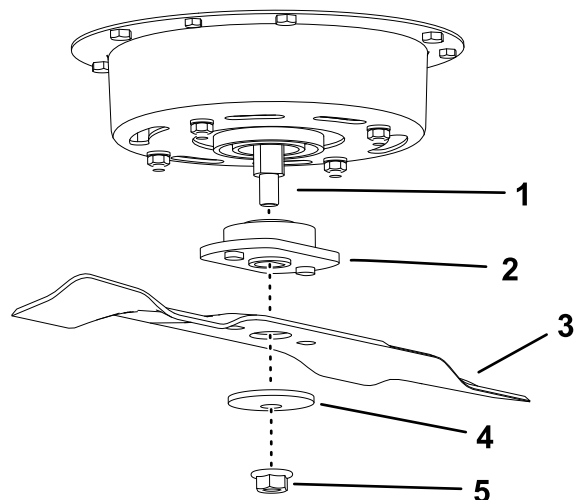

Figure 36
1. Install the blade and adapter onto the spindle shaft (Figure 36).